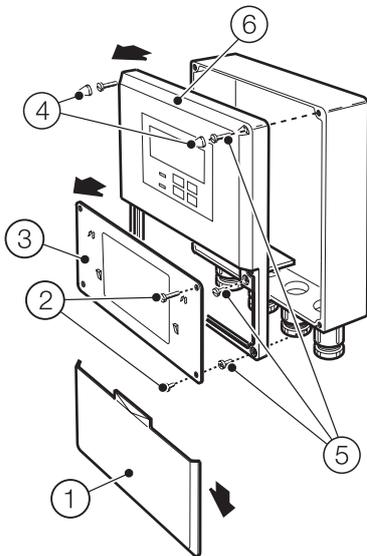

Figure 1 Removing the front cover – wall-mount transmitter
- 2 Referring to Figure 1:
- a Slide cover ① down, pull out slightly and slide off.
- b Release 4 captive screws ② and remove protection cover ③.
- c Remove 2 screw caps ④ (if fitted).
- d Remove 6 front panel screws ⑤ and remove front panel ⑥.
- 4 Referring to Figure 1:
- a Refit front panel ⑥ and secure with 6 front panel screws ⑤.
- b Refit 2 screw caps ④ (if fitted).
- c Refit protection cover ③ and secure with 4 captive screws ②.
- d Refit cover ①.